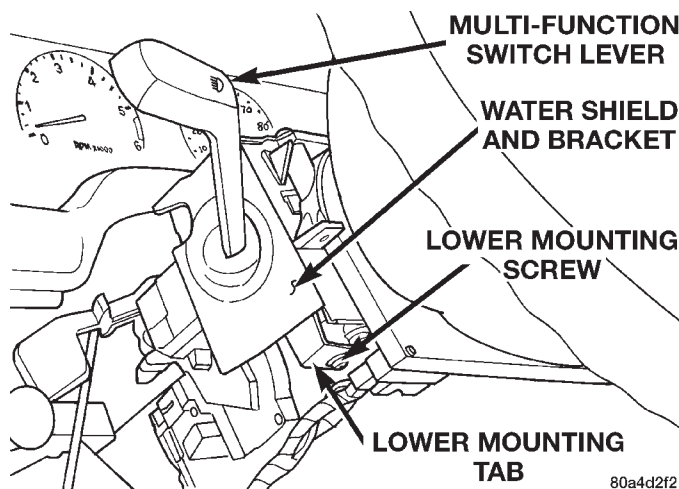

Fig. 15 Water Shield Lower Screw Remove/Install
(12) Remove the one screw located below the multi-function switch lever that secures the switch water shield and bracket to the steering column (Fig. 15).